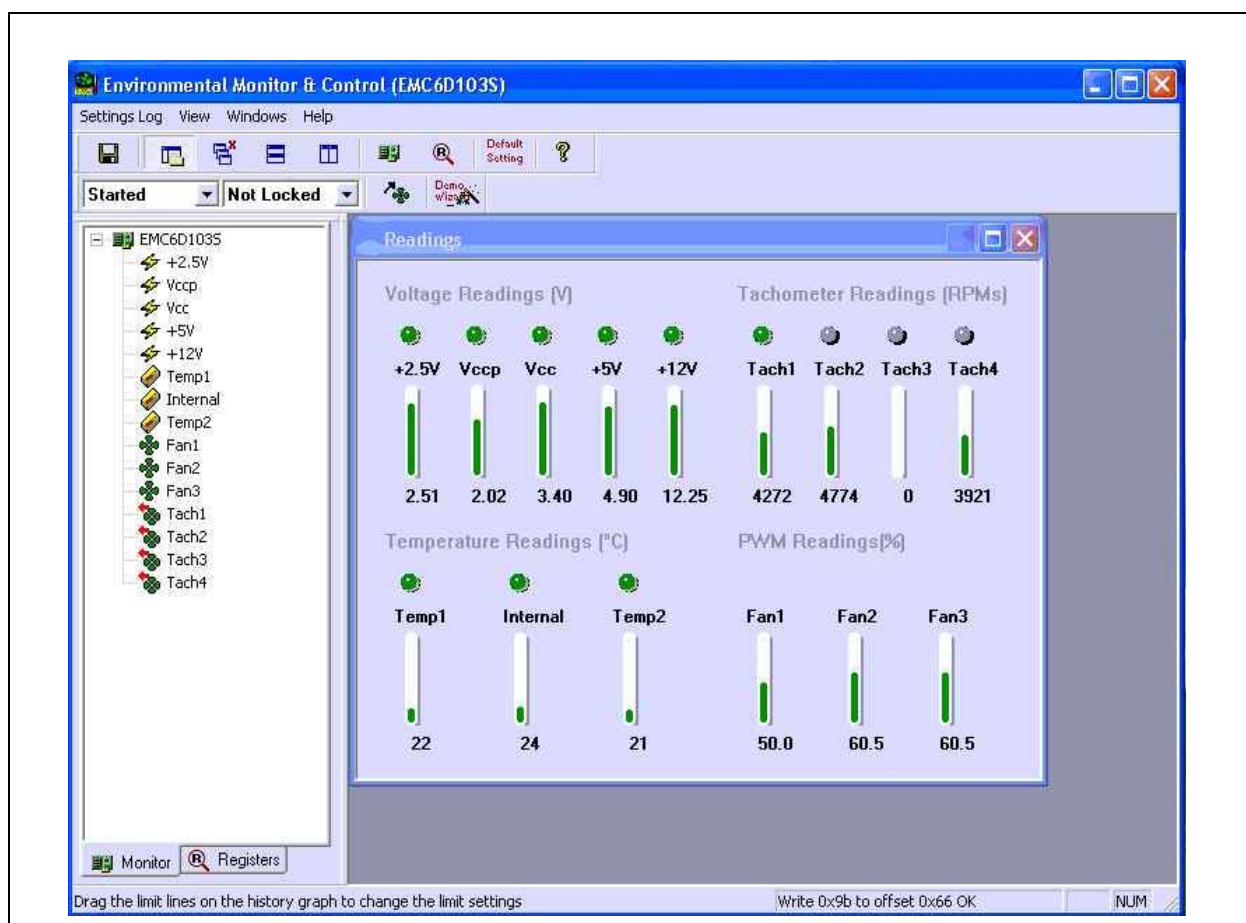

Figure 2.2 Demo Startup Screen
3. Start the EVB Software by selecting the EMC Demo application from the SMSC folder from the Programs Windows Start menu. The EVB will initialize and the startup screen will appear as in Figure 2.2. The USBAct LED should be blinking when the Demo application is running. The application window may now be resized or maximized and additional windows may be opened by clicking on the items in the Monitor pane on the left or on the graphical elements on the startup screen.